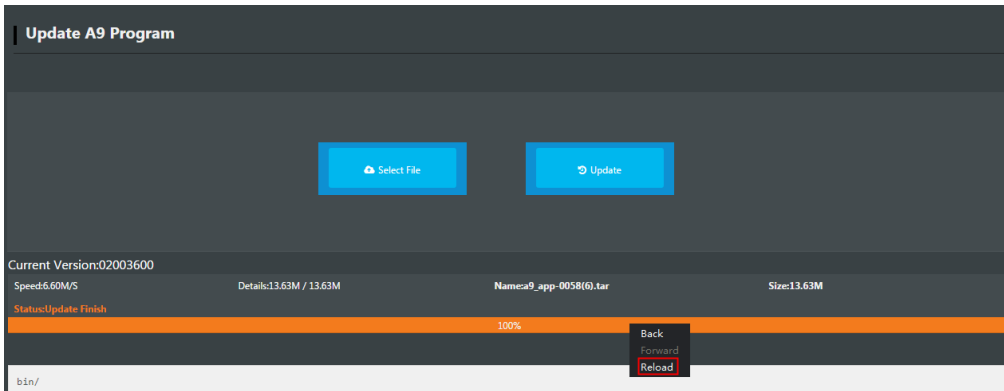

Figure 6.39 Update A9 firmware
- Step 6** Right-click **Reload** after **Status** is **Update Finish**, as shown in Figure 6.39.